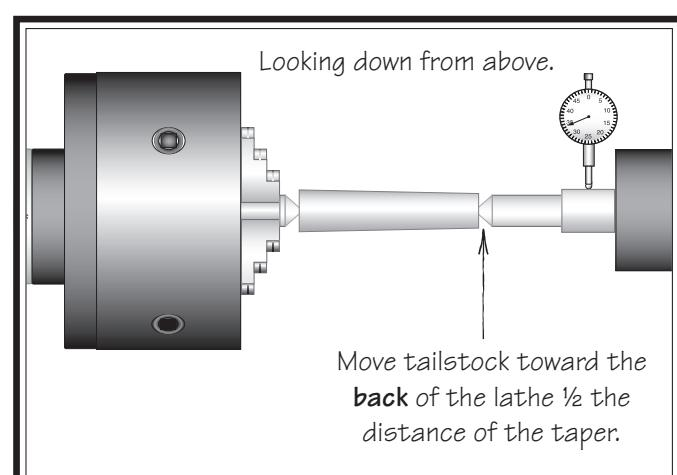

Figure 33. Adjust tailstock away from the operator.
- If the test stock is *thinner* at the tailstock end, move the tailstock top casting toward the *back* of the lathe $\frac{1}{2}$ the distance of the amount of taper (see **Figure 33**).